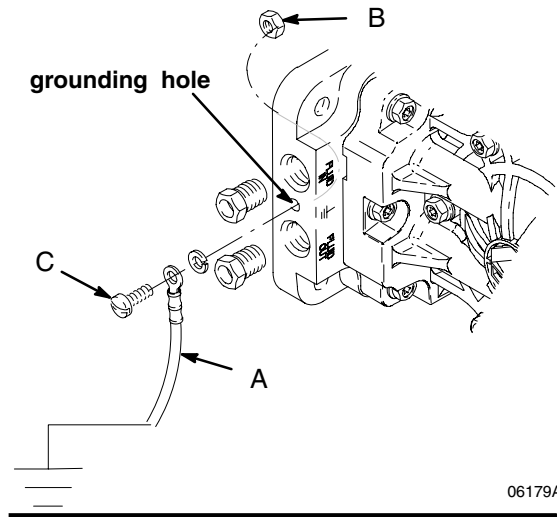

Fig. 1
The *polypropylene and PVDF pumps* are **not** conductive. When you pump conductive flammable fluids, **always** ground the entire fluid system. Make sure the fluid has an electrical path to a true earth ground, see Fig 1. **Never** use a polypropylene or PVDF pump with non-conductive flammable fluids as specified by your local fire protection code.
Pump: Connect a ground wire (A) and clamp, Part No. 819.0157. See Fig. 1. The pump grounding locations are on the manifold between the inlet and outlet ports. Use the nut (B) and bolt (C) that are provided with the pump, and install as follows: